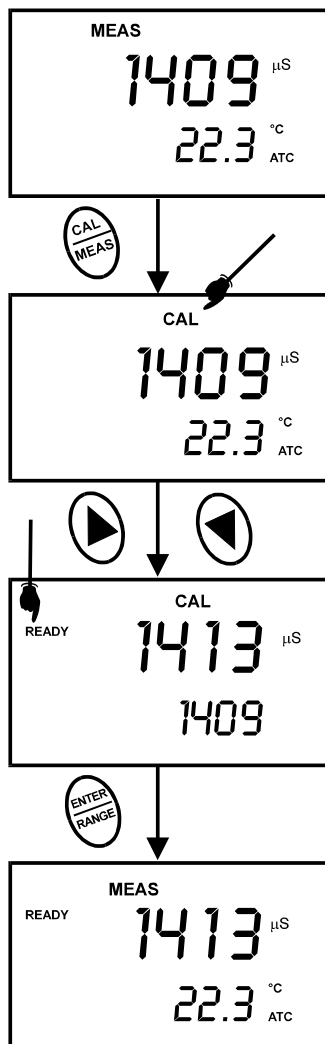

Figure 8 - Conductivity Calibration
3. Dip the probe into the calibration standard. Immerse the probe tip beyond the upper steel band. Stir the probe gently to create a homogeneous sample. See Figure 8.
See figure 8.